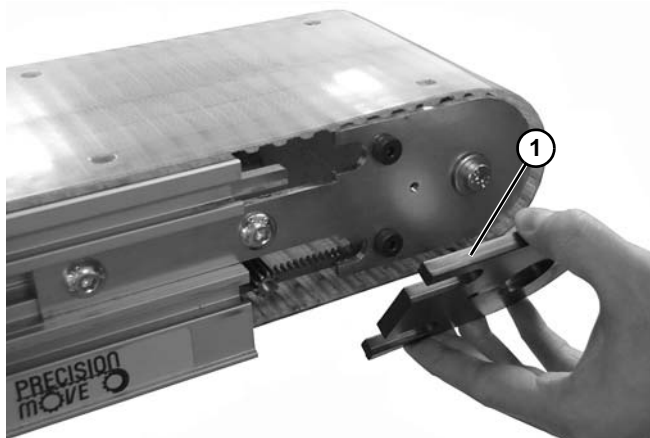

Figure 25
11. Remove bearing housing (**Figure 25, item 1**).